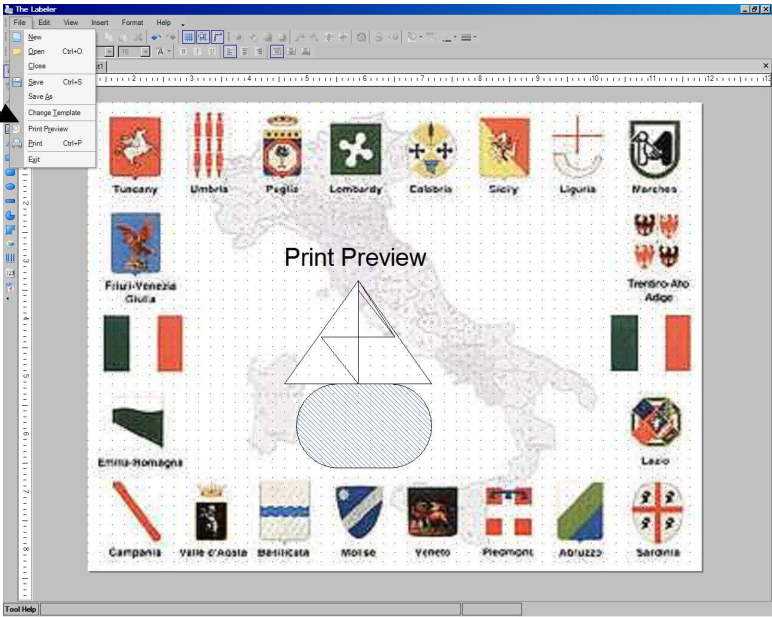
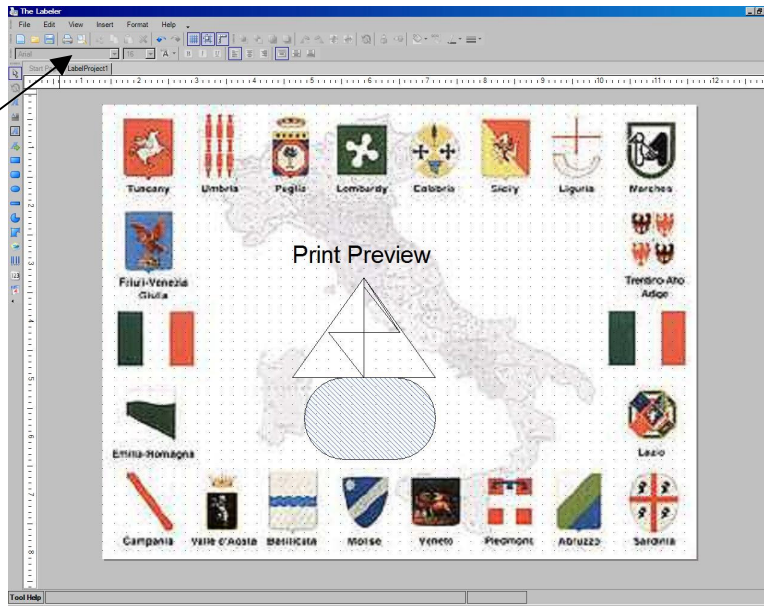

Figure 5.3.1: Print Preview through File Menu
Figure 5.3.2: Print Preview through Standard Tool Bar
1. Click on the print view  icon located on the standard tool bar, or you can find it in the file menu (see Figure 5.3.1 and Figure 5.3.2).